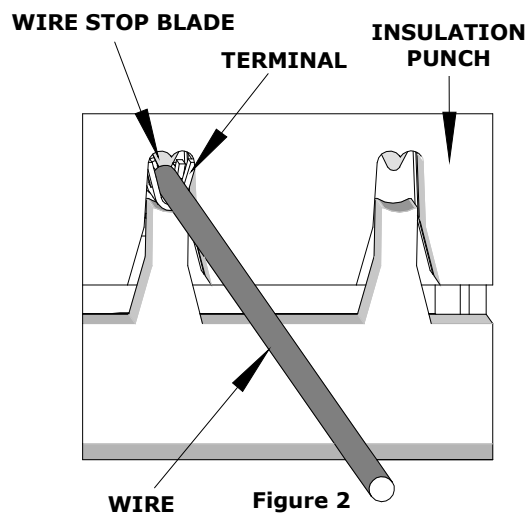
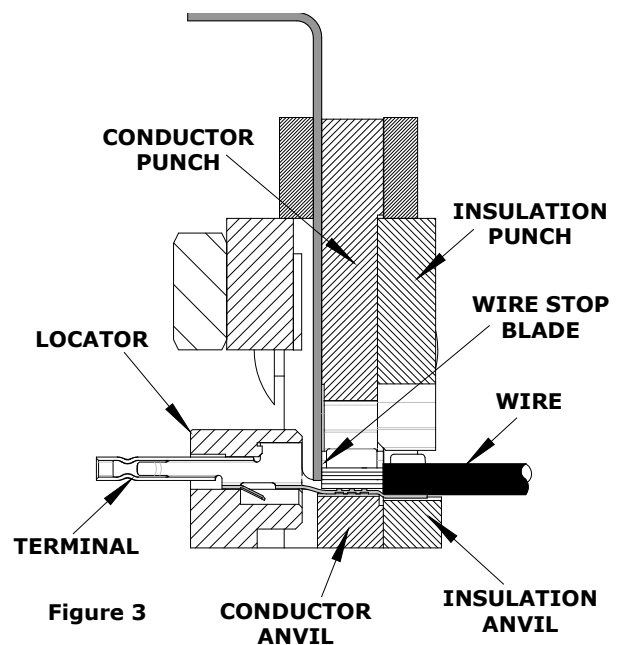

Figure 2
Figure 3
5. Slide the pre-stripped wire into the terminal, making sure to aim the wire brush toward the tip point on the wire stop blade. See Figure 2. Align the wire so that it is parallel and sitting into the terminal. Maintain a light and constant pressure on the wire that is seated in the terminal at all times. (Do not let go of the wire.) Be sure to hold the wire and terminal in place until the terminal is fully crimped. See Figure 3.